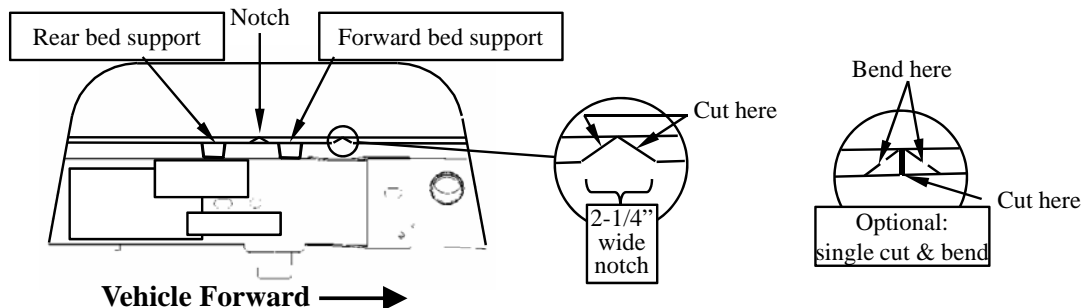

Figure 7
4. From the passenger's side wheel well, cut a 2-1/4" wide notch into the sheet metal flange between the two bed supports over the rear axle, and another notch in front of the forward bed support as shown in Figure 7. Another way to notch the bed flange is to make a single vertical cut, then fold the flange material up enough to allow the for the rails to fit between the frame and the bed. After the rails have been installed, the cut flange may be bent back down to its original position and the cut steel surfaces may be touched up with paint to prevent rusting.